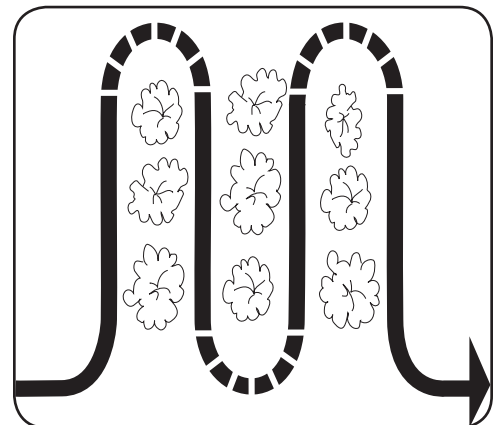

Figure 3-6
- When cultivating (breaking up surface soil around plants to destroy weeds, see Figure 3-6), Adjust the tines to dig only 1" to 2" deep. Using shallow tilling depths helps prevent injury to the plants whose roots often grow close to the surface. If needed, lift up on the handlebars slightly to prevent the tines from digging too deeply. (Cultivating on a regular basis not only eliminates weeds, it also loosens and aerates the soil for better moisture absorption and faster plant growth.) Watering the garden area a few days prior to tilling will make tilling easier, as will letting the newly worked soil set for a day or two before making a final, deep tilling pass.